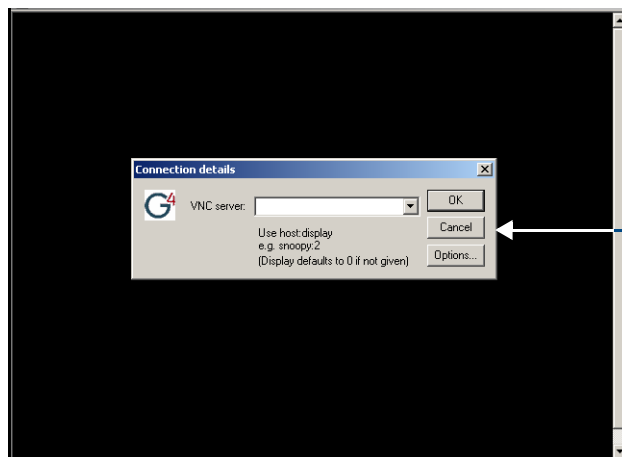

FIG. 40 Connection Details dialog
8. In some cases, a *Connection Details* dialog (FIG. 40) may appear that requests a VNC Server IP Address. This is the IP Address of the target touch panel, not the IP of the Master. Depending on the method of communication being used, it can be found in either the: